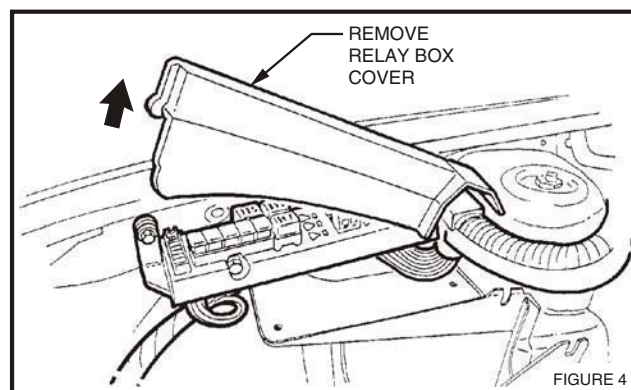

FIGURE 4
6. Unclip and remove engine compartment relay box cover, refer fig 4.